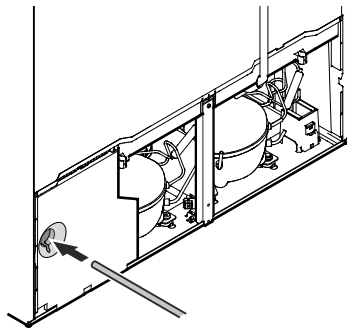

Figure 15
2. Insert the water supply line into its intended opening at the back of the appliance (**Figure 15**).